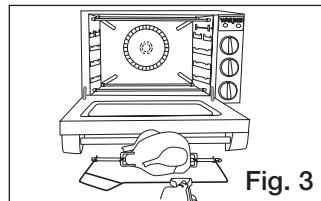

Fig. 3
9. Use handgrip to remove rotisserie item from oven (see Fig. 3).